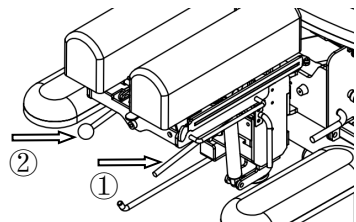

Figure 7
- Lift up the pull rod ① in Figure 7 to adjust the head plate up and down.
- Lift up the pull rod ② in Figure 7 to activate the head plate drop section. Then press down on the head plate to achieve the effect of the drop pressure.